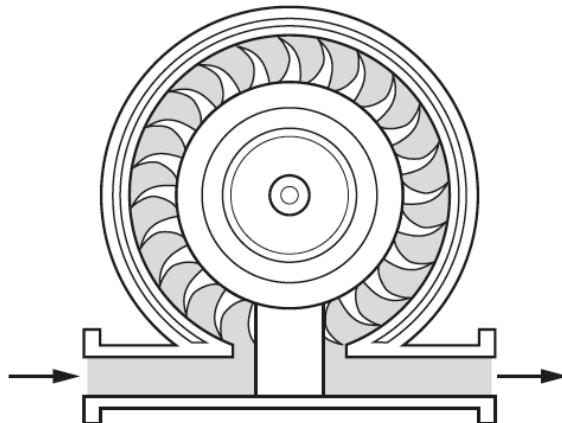

Fig. 3
Once again, there were three questions which had a higher incidence of failing to answer (No Response) than anticipated. For questions 1(a)(i), 3(a)(i) and 5(a)(v) candidates were required to annotate a diagram, but could have missed the instruction to do so. This is despite clear instructions that were used to make it clear to candidates that they need to annotate the drawing, such as "Add one label to Fig 3". Many marks were lost by candidates where they did not answer these three questions. It is most important that candidates take the time to read through the question paper carefully before attempting to answer questions, and ensure that they have responded to all questions including annotating diagrams where required.
3 (a) Fig. 3 shows a vacuum generator.
- (i) Add **one** label to Fig. 3 to show the intake port.